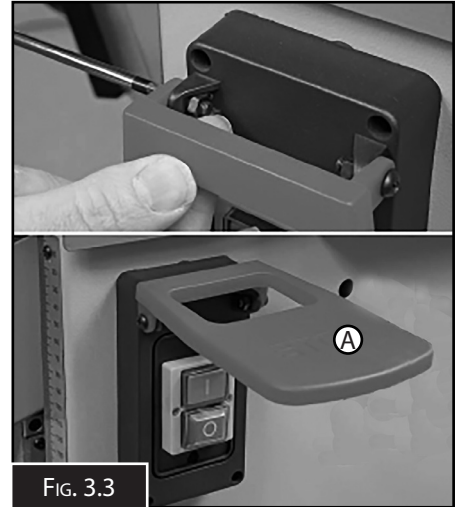

FIG. 3.3
Locate the RED emergency stop lever (A) and remove the two Phillips screws and nuts. Line up the holes in the stop lever with the holes on the switch housing, insert the Phillips screws through the hinges and replace the nuts. Lightly tighten sufficiently to allow the lever to move freely. (Fig. 3.3)